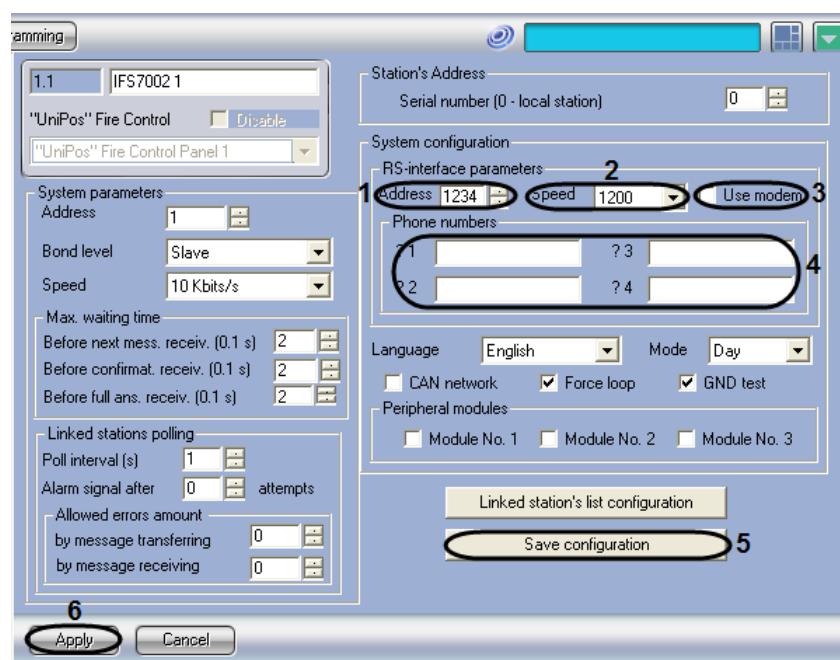

Fig. 3.3—10 Configuring the RS interface parameters for the IFS7002 Fire Control Panel
1. Go to the settings panel of the “IFS7002” object (Fig. 3.3—10).
2. Enter the RS network address of the FCP (from 0 to 9999) into the “Address” field (see Fig. 3.3—10, 1).
3. Select the data exchange rate in the RS network from “Speed” drop-down list (see Fig. 3.3—10, 2).
4. If a dial-up connection is required for the RS network, check the “Use modem” checkbox (see Fig. 3.3—10, 3).
5. Enter the phone numbers for the dial-up connection into the “Phone numbers” field (see Fig. 3.3—10, 4).
6. To apply the settings to the FCP you must click the “Save Configuration” button (see Fig. 3.3—10, 5).